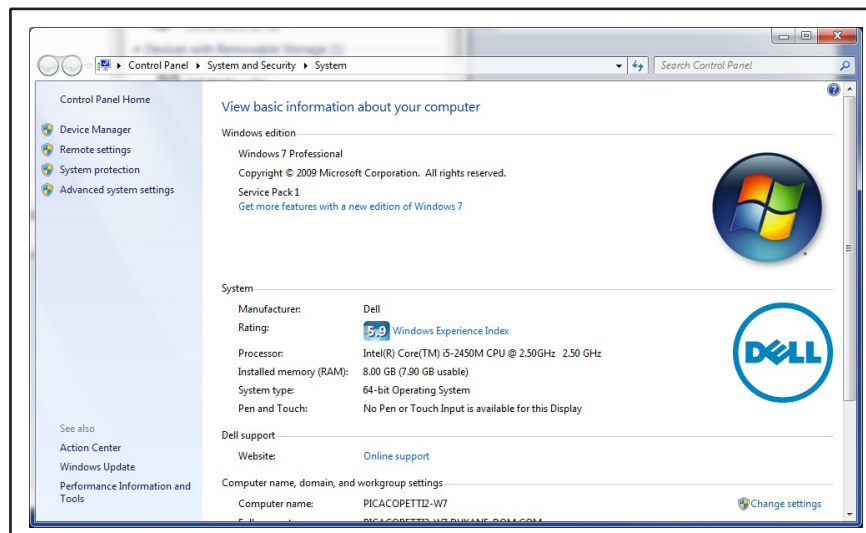

Figure 2-10 Properties - Hardware and Software Details (Windows 7)
- From the Computer submenu, click on Properties to view computer details about your computer. A sample view is shown below in Figure 2-10.